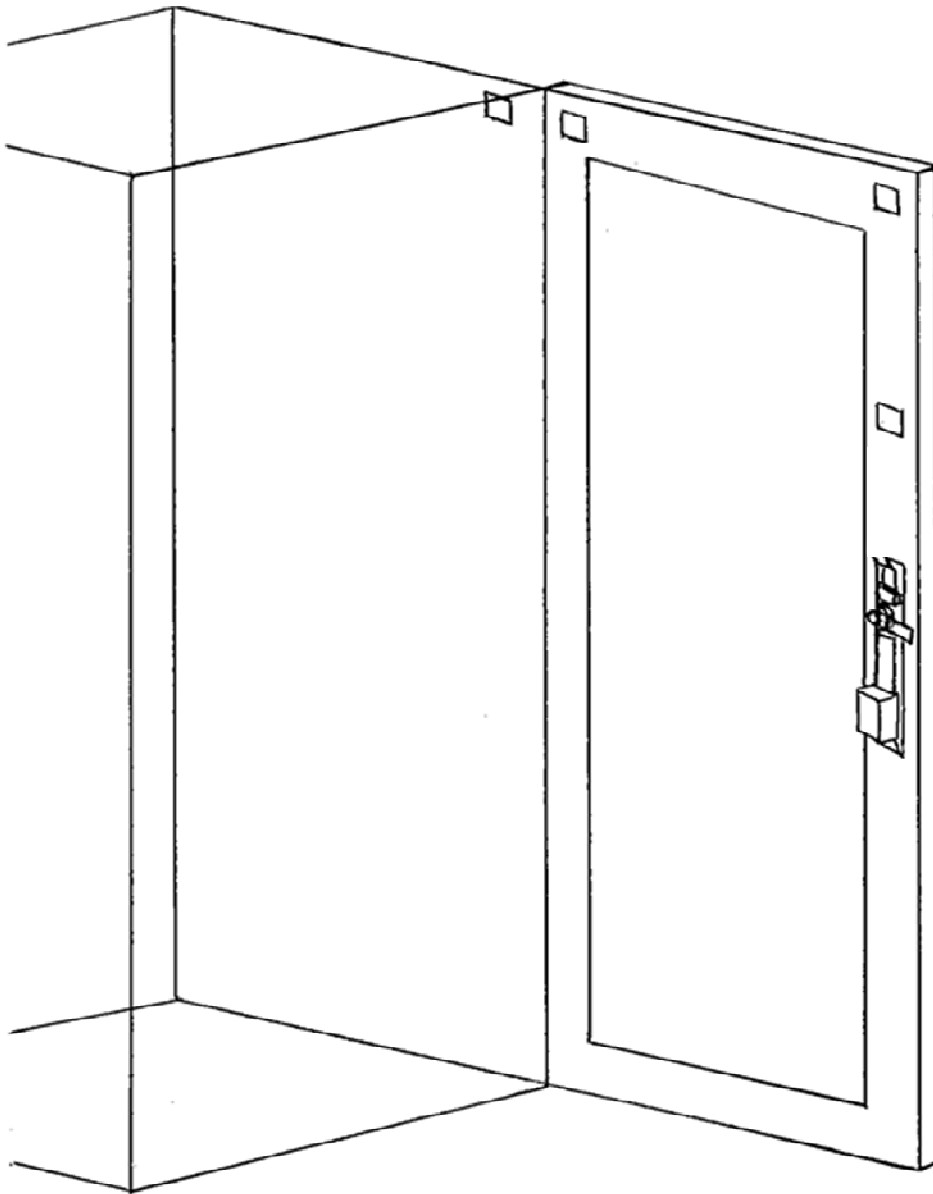

Figure 2
- Remove the protective cover from each tie-down pad and situate as shown in Figure 2.